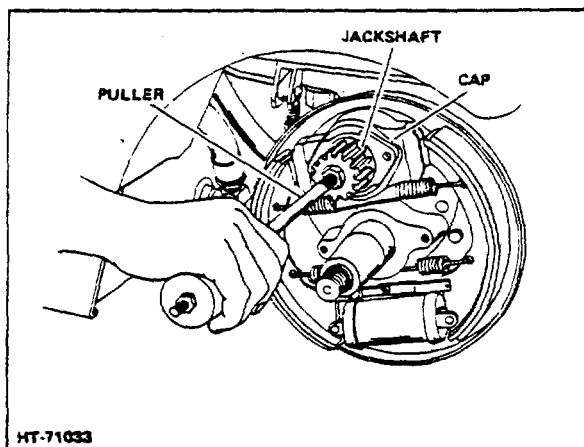

Figure 2-3. Pulling Jackshaft
7. Install a slide hammer puller (Fig 2-3) in threaded hole in the end of the jackshaft; carefully remove jackshaft and bearing assembly from housing as a unit.